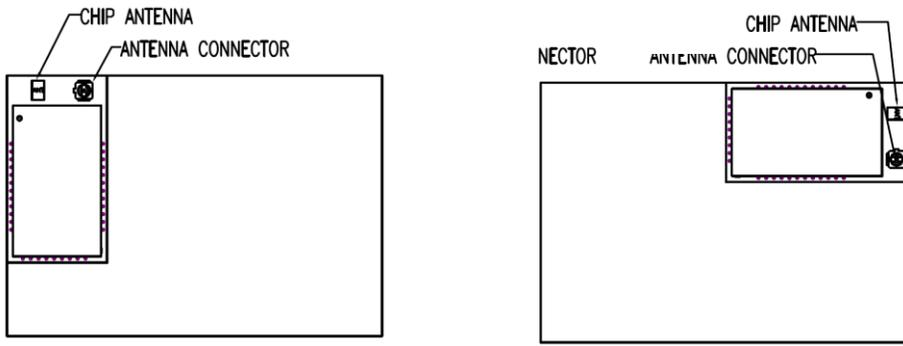
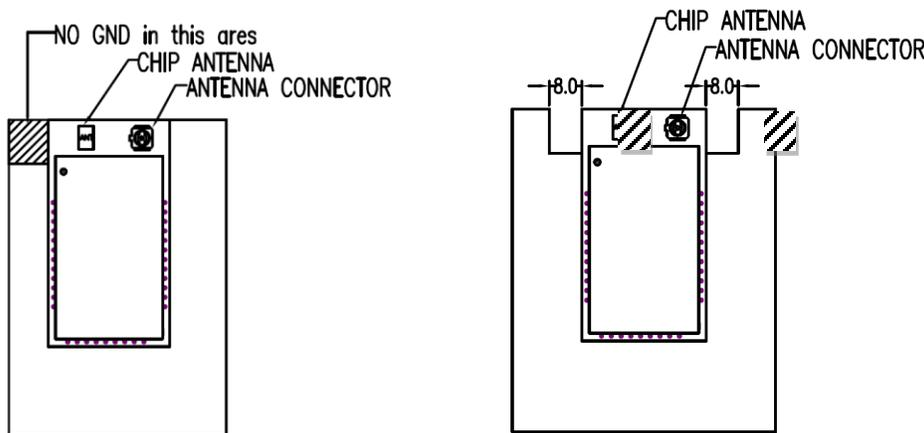

Figure 5-1: BT740-SA placement in the corner of host PCB.
Figure 5-2: BT740-SA placement in the edge (not corner) of host PCB (with modified antenna keep-out).
- For best antenna performance, place the BT740-SA module on the edge of the host PCB, preferably in the corner with the antenna facing the corner. An example shown in Figure 5-1.
- The antenna-keep-out defined in PCB Land Pattern and Antenna Keep-out area for BT740-SA applies when the BT740-SA is placed in the corner of the host PCB. When BT740-SA cannot be placed as such, you must place it on the edge of the host PCB and use a modified antenna keep out. This antenna keep-out modification is shown in Figure 5-2 (antenna keep-out is extended by 8 mm on both sides).
2. For BT740-SA (with on-board chip antenna) best antenna performance, the module BT740-SA **must** be placed on the edge of the host PCB, preferably in the **corner** with the antenna facing the corner (see Figure 5-1). The module is placed in the **corner** of host PCB above the keep-out area. If the BT740-SA is placed on the edge instead, the keep-out area must be modified (see Figure 5-2 in section 5.3.1).